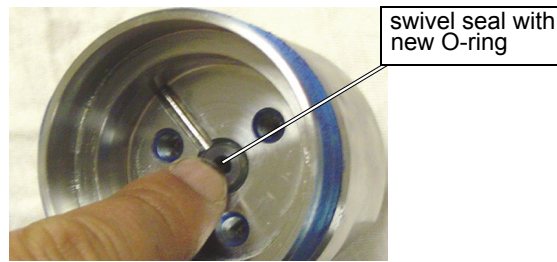

Figure C-10: Insert the Swivel Seal with New O-ring into the Swivel Body
5. Lubricate the new **swivel seal** and **O-ring** with Lubriplate and insert them into the **swivel body** (Figure C-10). Ensure that the O-Ring end of the seal goes into the hole first.